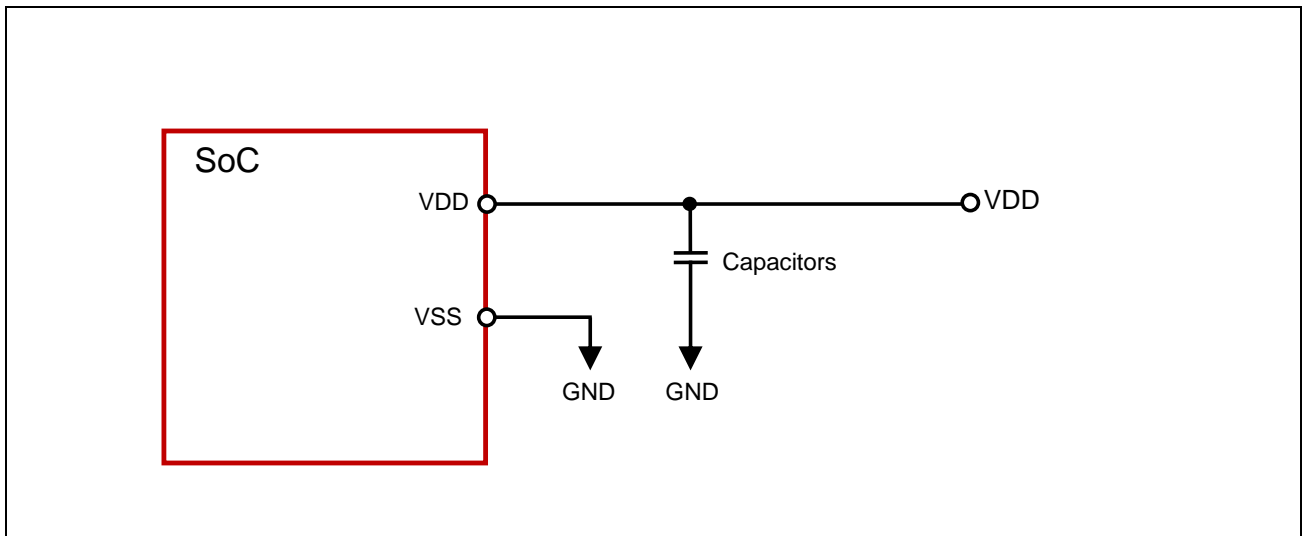

Figure 3.1 Circuit diagram of Core power supply (VDD) and external parts
**Figure 3.1** shows a circuit diagram image of Core power supply and external parts.